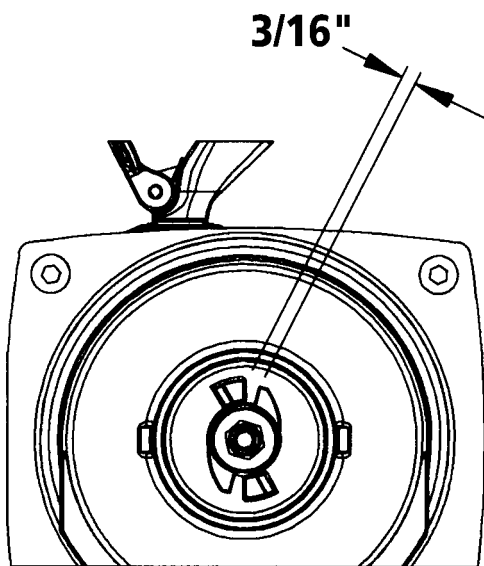

Figure 6 - Brake Adjustment
4. Slide the driver onto the drive shaft so that there is $\frac{3}{16}$ inch between the flat surface of the driver and a stop on the handwheel (See Figure 6, below). Hold the handwheel and driver in this position and firmly tighten the handwheel nut.